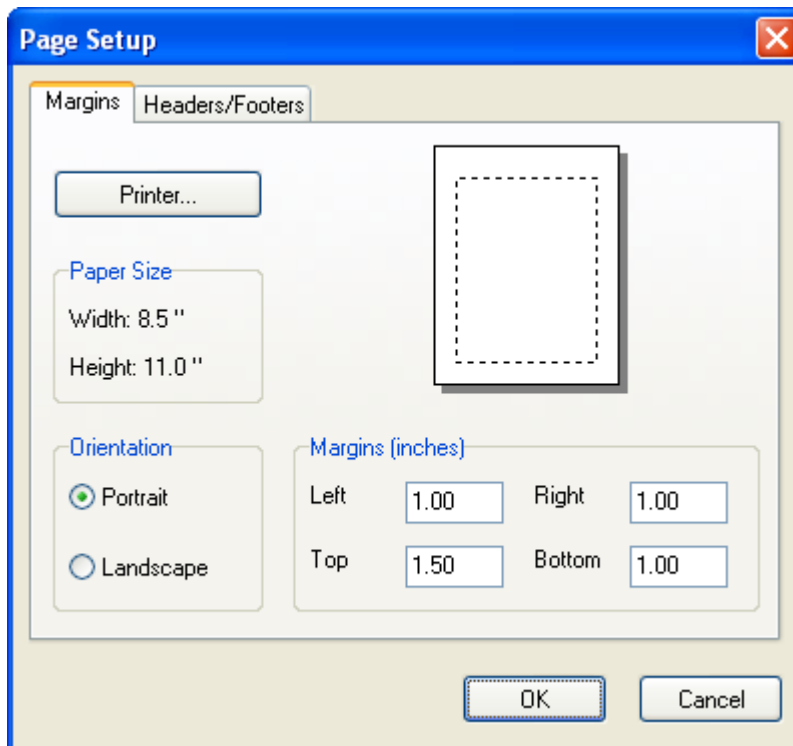

Figure 10-1. The Margins page of the Page Setup dialog.
2. Click the **Printer** button on the Page Setup dialog that appears (see Figure 10-1).
2. Use the Margins page of the Page Setup dialog form that appears (Figure 10-1) to: